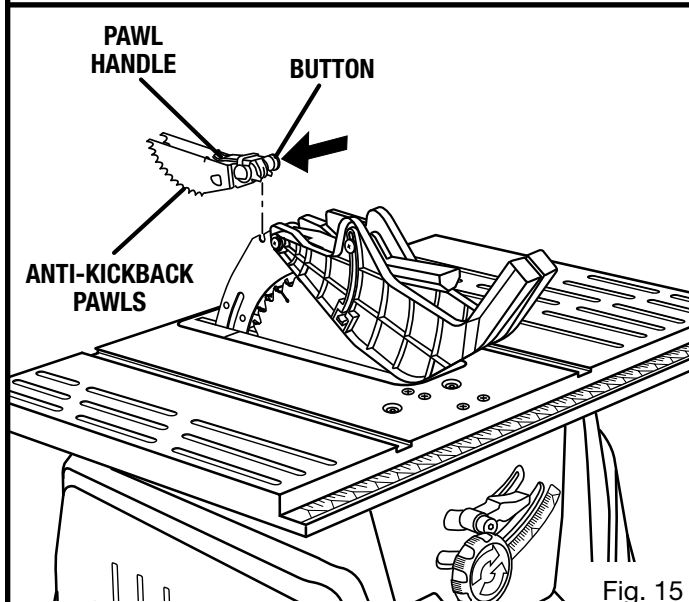

Fig. 15
- With the front of the blade guard raised, lower the back of the guard into the middle hole of the spreader/ripping knife. Push the front of the guard down until it is **parallel to the table** (see figure 15). If the blade guard is not parallel to the table, the ripping knife is not in the spreader (or “up”) position.